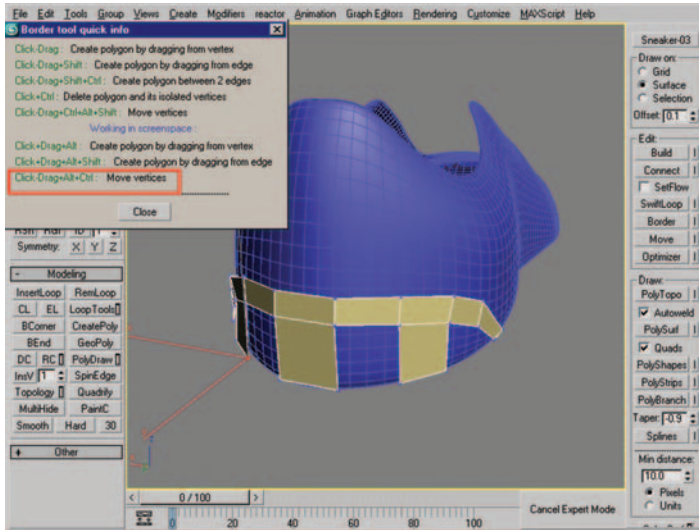

Figure 12.33 New polygons create with Border. Vertices were also moved during the process by using the Ctrl+Alt key combo.
- Using the Shift key and Border drag a new polygon from every other polygon as seen in Figure 12.33. I also adjusted the vertex positions using Ctrl+Alt with the Border tool still active.